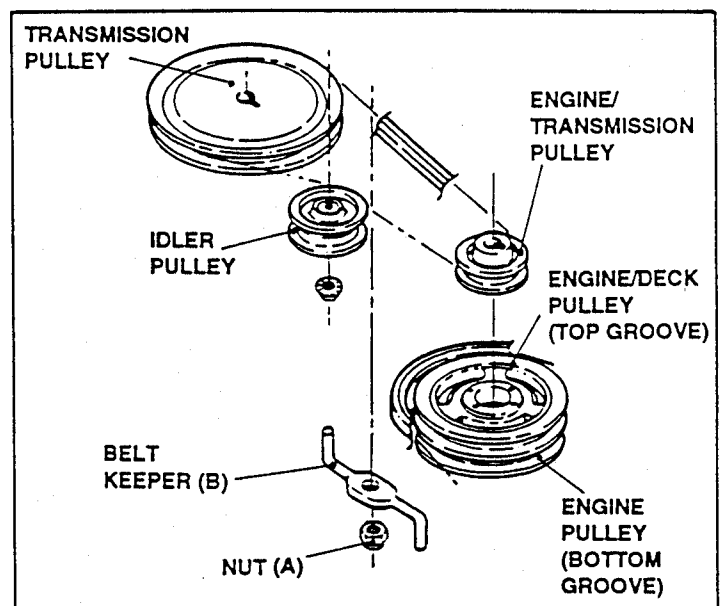

FIGURE 52
2. Tighten Nut (A) on Belt Keeper (B) at rear of Engine/Deck Pulley. See Figure 52.
For cutting height range of 1" to 2-1/2", the Cutter Deck Belt must be installed on bottom groove of Engine/Deck pulley. See Figure 52. Also reset adjustment of Engine Belt Guide. See ADJUSTMENTS: ENGINE BELT GUIDE (PRO 748).